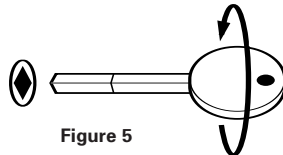

Figure 5
2. Rotate the key **CLOCKWISE** until the door pops open (Figure 5)